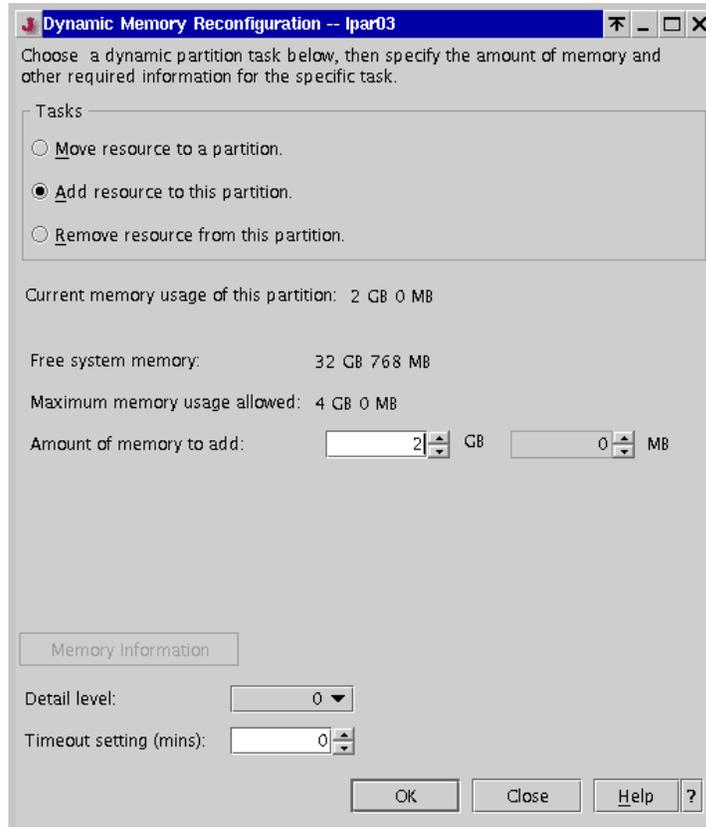

Figure 8-3 Dynamic memory addition to a partition
8. The Dynamic Memory Reconfiguration window opens. Select **Add resource to this partition**, as shown in Figure 8-3.